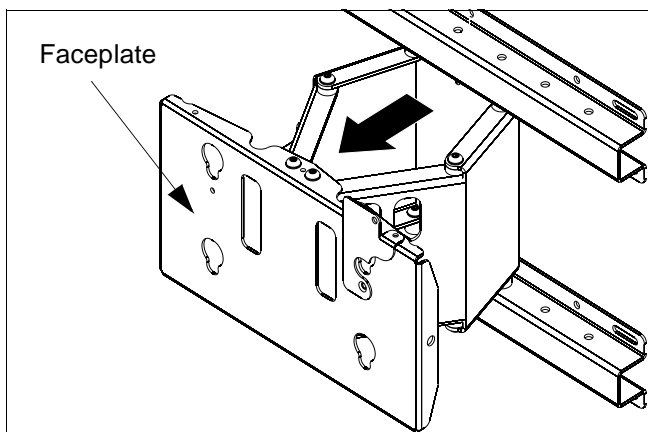

Figure 6: Extend Mount
6. Move mount faceplate to extended position by grasping faceplate and pulling outward away from wall. (See Figure 6)